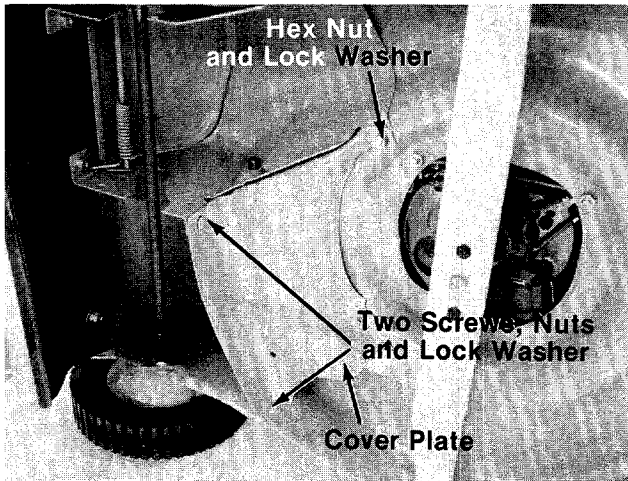

FIGURE 25.
7. Remove two screws, nuts and lock washers. Remove one hex nut and lock washer from cover plate. See figure 25.